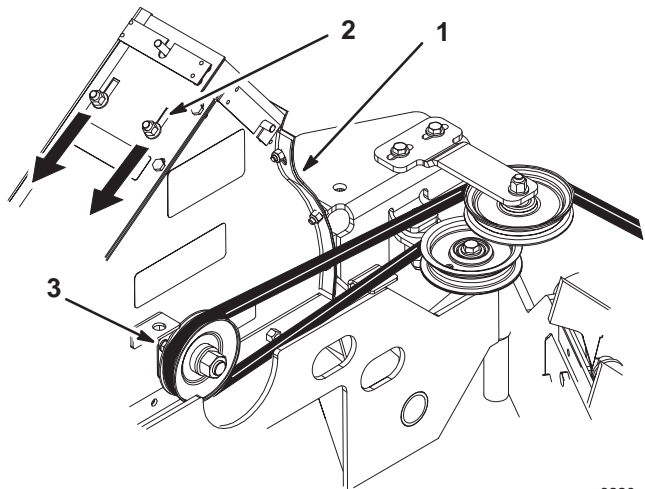

Figure 42
8. Push the top 2 bolts down, toward the front of blower, until the blower liner conforms to the inside of the blower (Fig. 42). This will provide clearance between the impeller and the liner.
9. Rotate the blower pulley to verify that the blower fan does not hit the liner (Fig. 42). Adjust the liner if necessary.
10. Tighten the 2 top bolts in the liner and the blower (Fig. 42).